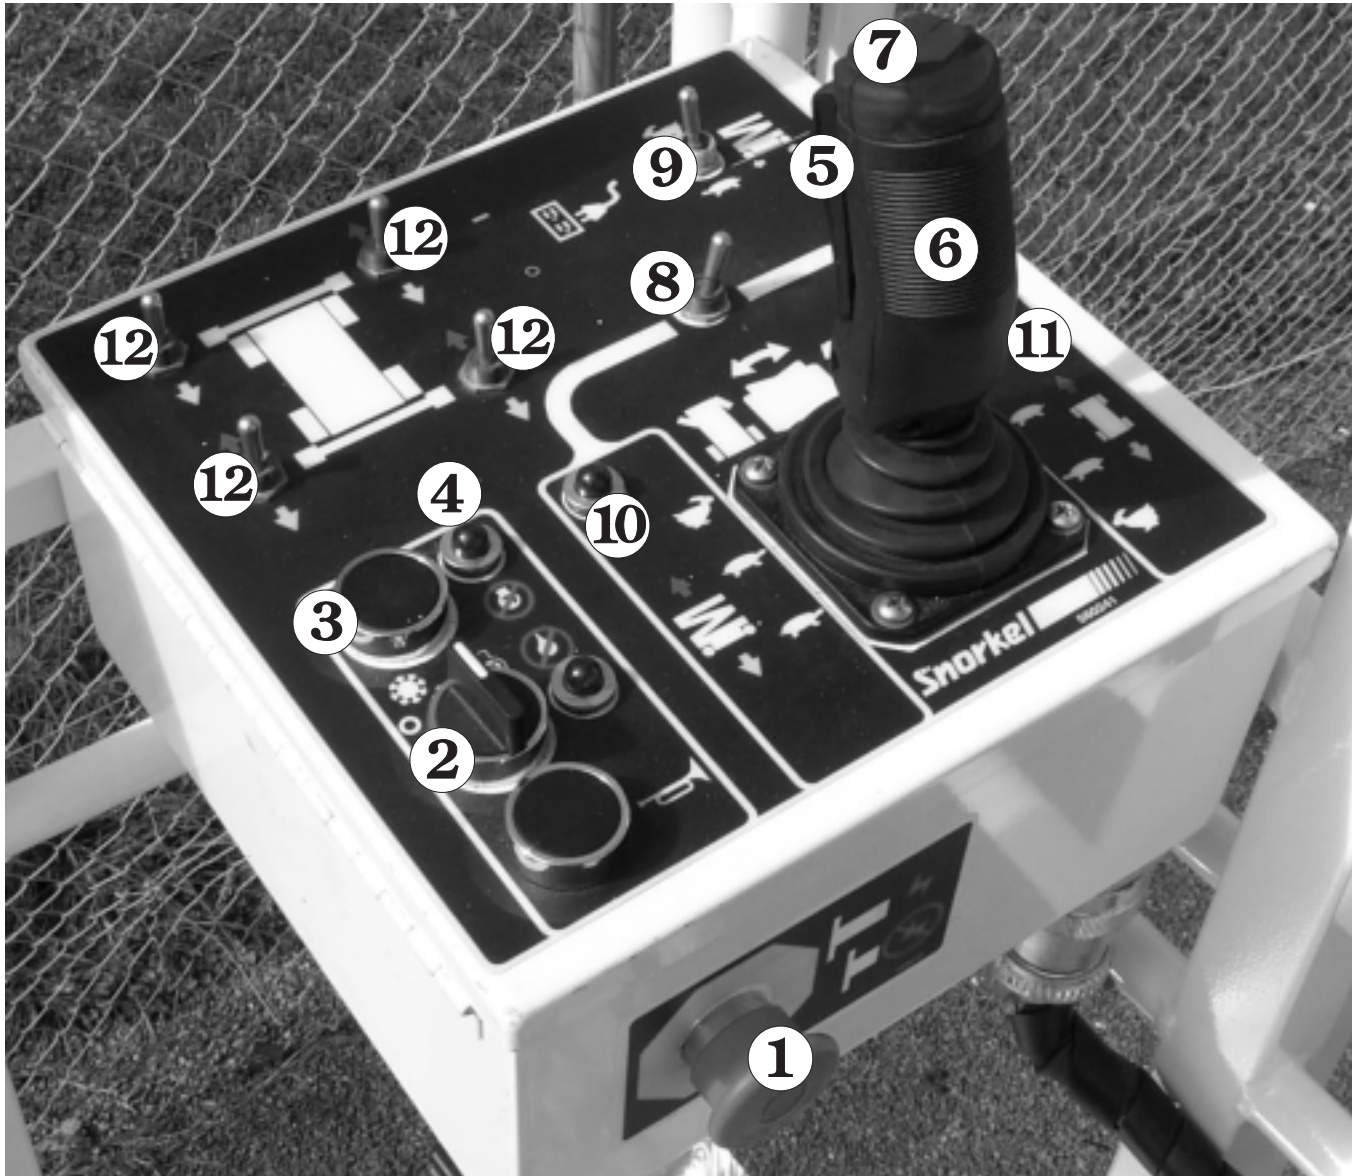

Figure 6.3
12. **Outriggers** Each switch corresponds to one of the outriggers. Pull a switch backward to lower an outrigger, push it forward to raise the outrigger (see Figure 6.3).